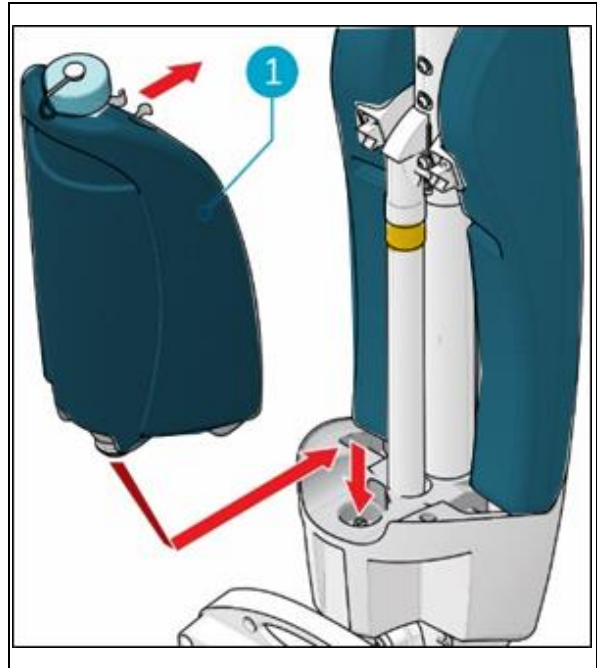

Figure 12
1. Put the tank (Figure 12, pos 1) on the i-mop® XXL with the valve first.